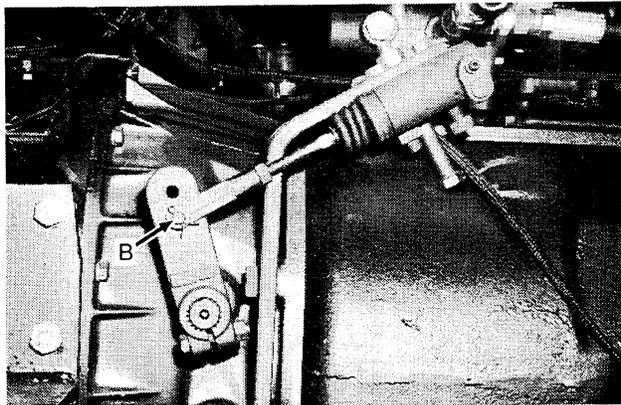

Figure 14:
3. Remove the pin from the slave cylinder actuator rod clevis (B—Fig. 14).